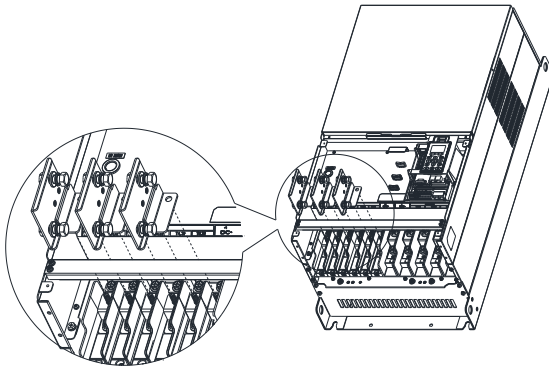
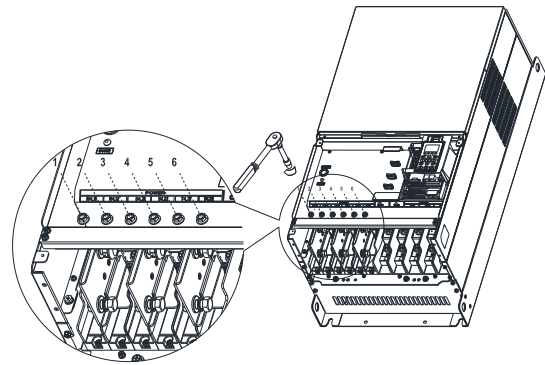

Figure 1
Figure 2
- Install the 3pcs copper assy., as shown in the following figure 1. Fasten the upper M8 nuts (1–6) with a sleeve wrench (12 mm of the sleeve), as shown in the figure 2 below.